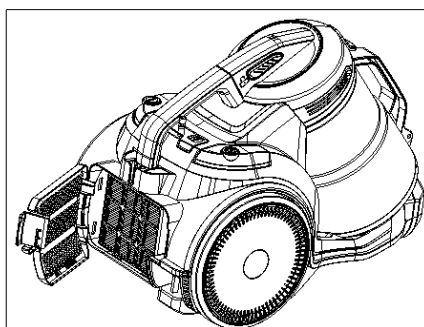

Fig. 14
1. Press to open the filter compartment. (Fig. 14)